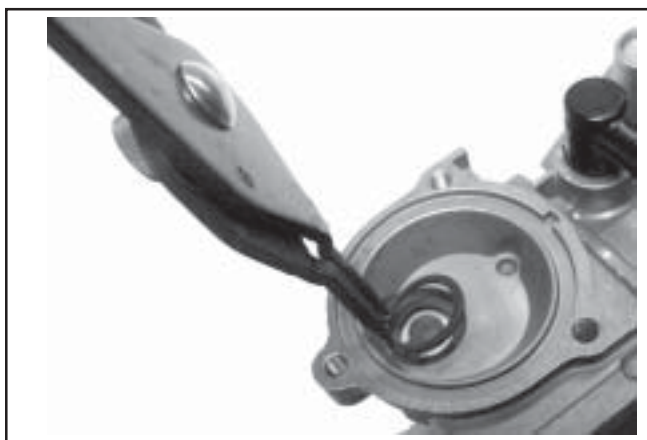

Figure 5-31. Removing Retaining Ring.
3. Remove the retaining ring over the rubber check valve, using a snap ring pliers. Remove the check valve from the fuel delivery chamber. See Figure 5-31.